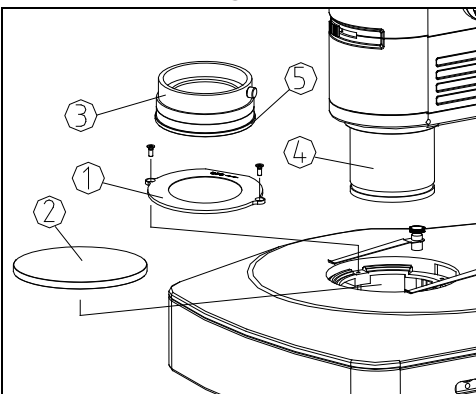

Fig.24
- Remove the stage plate (2) from the base, and install the polarizer (1) into the base with a M3 key (align the flat side of polarizer (1) close to the pillar), then reinstall the stage plate (2). (See Fig. 24)
- Install the analyzer (3) on the outside diameter of main objective (4), and lock it with the lock screw on analyzer.
- Rotate the adjustment ring (5) of analyzer (3) to adjust the direction of the analyzer, which is 360°rotatable.